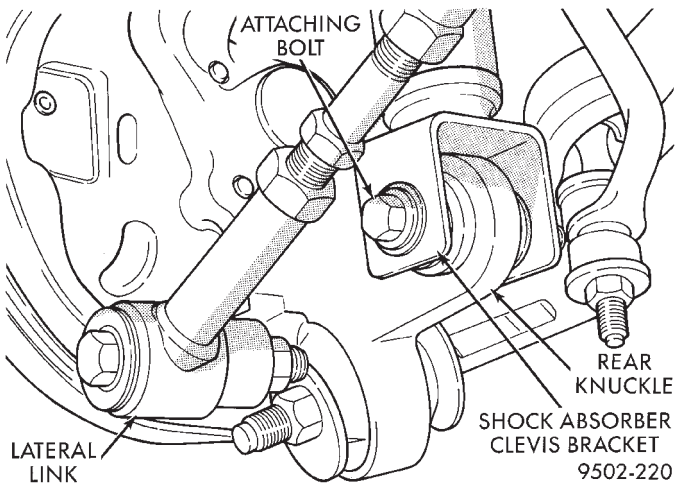

Fig. 2 Shock Absorber To Knuckle Attaching
(1) Raise vehicle on jackstands or centered on a frame contact type hoist. See Hoisting in the Lubrication and Maintenance section of this manual, for the required lifting procedure to be used for this vehicle.
(2) Remove both rear wheel and tire assemblies from the vehicle.
(3) Remove the shock absorber clevis bracket to rear knuckle attaching bolt and nut on both sides of the vehicle (Fig. 2).